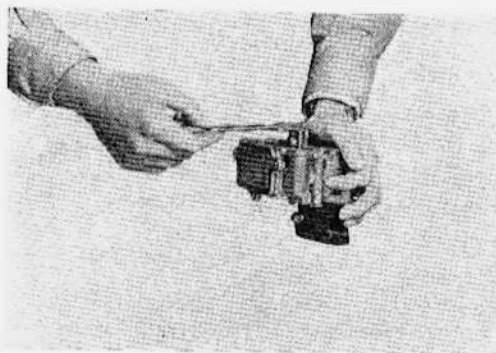

Figure 117
(5) Remove counter arm by unloosening supporting screw (Fig. 117).